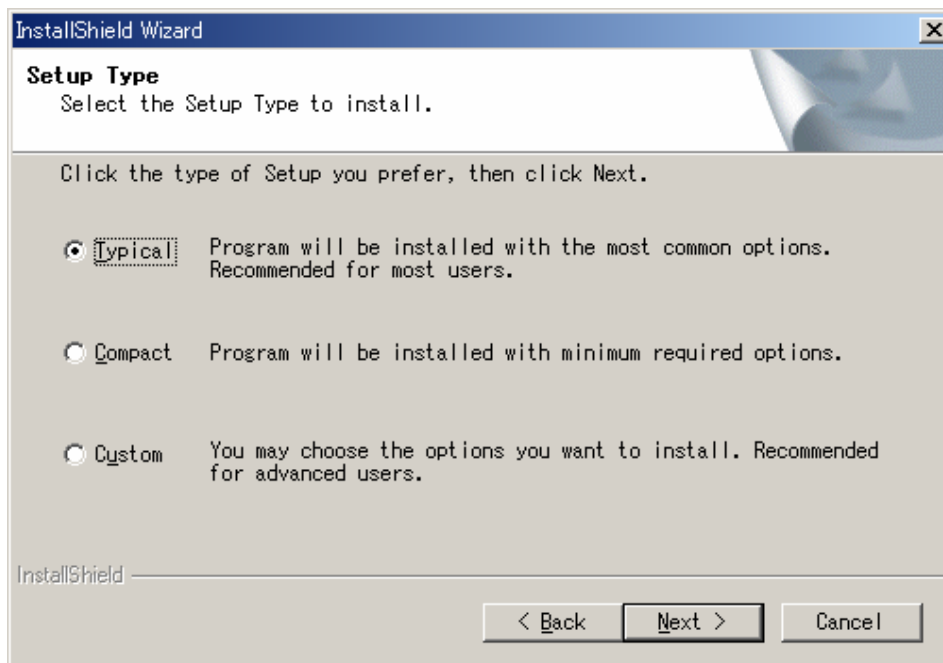

Figure 3-1 Setup Type Screen
- (1) Execute "SetupAPIxxx.exe." xxx: installer's version number
- (2) In the InstallShield Wizard, the Setup Type Screen (Figure 3-1) will be displayed after the Software License Agreement appears. Then, specify the type of installation you prefer.
- (3) When "Typical is selected and installation is completed, [SII Printer Software] is available in [Program] from Windows [Desktop] - [Start] - [Start Menu]. In the [SII Printer Software], the "Printer Hardware Settings", and "Presenter Automatic Paper Collection Time Settings" programs are registered.